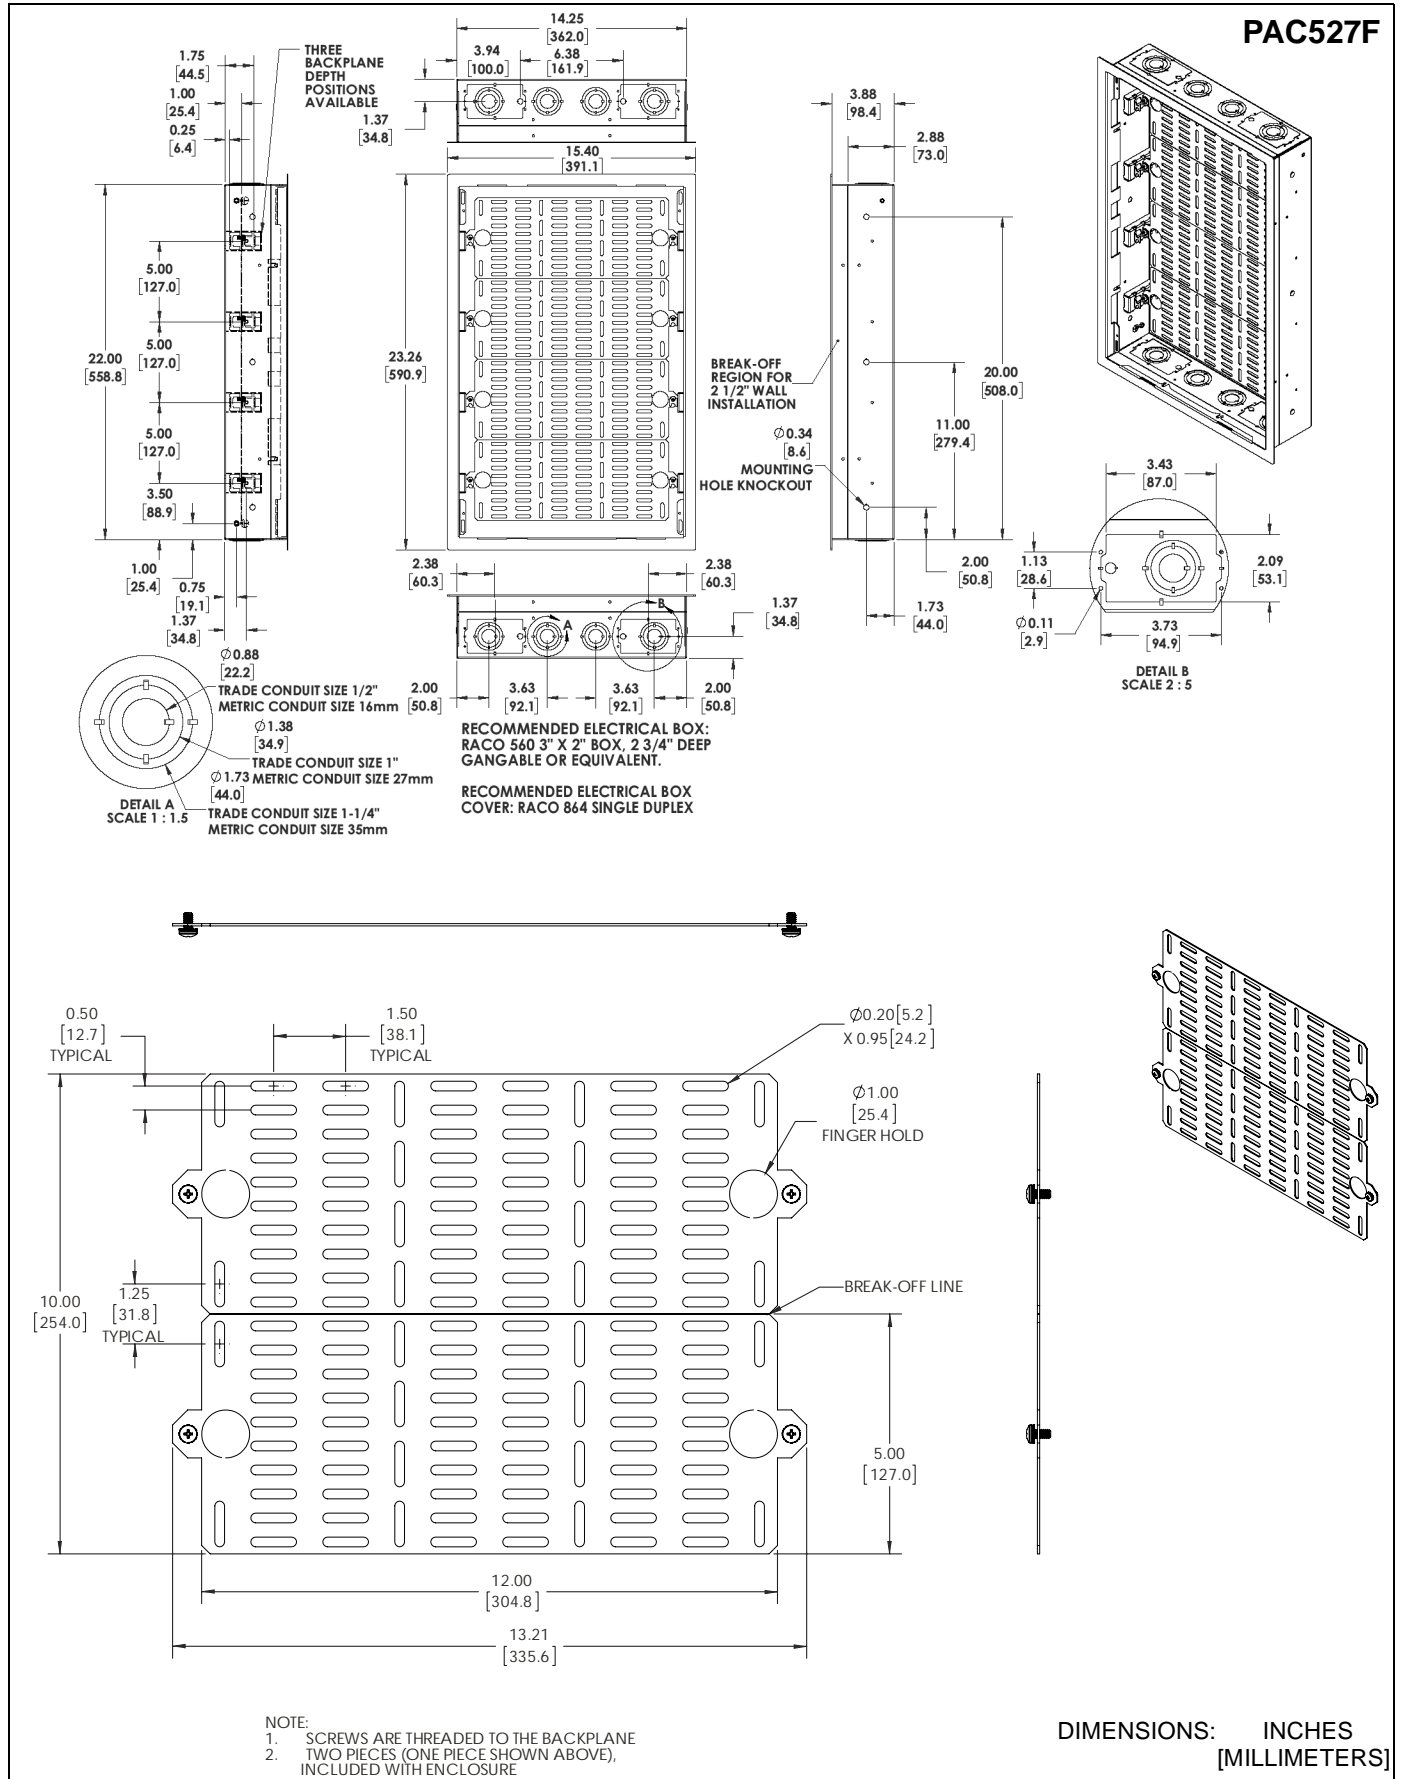

**Figure 17**
2. Gather all wires and route through the cover opening(s). (See Figure 17)
3. Install cover (N) and fasten with two #6 x 1-1/4" Phillips self-tapping screws (P) [#6 x 1-1/2" button head self-tapping screws (Q) for security], two spacers (S) and two #6 lock washers (T). (See Figure 17)